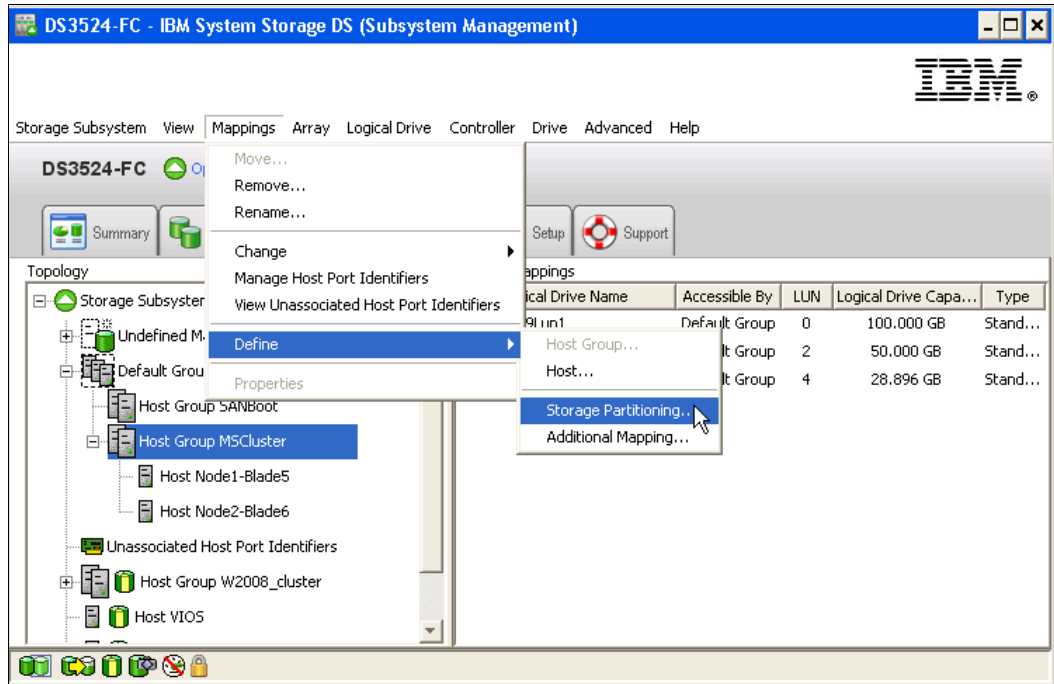

Figure 19-5 Create Host Group-to-Logical Drive Mapping
6. Create the host group-to-logical drive mapping. Select the host group created in previous step (in our example, MScCluster) and define storage partitioning by clicking the **Mapping** → **Define** → **Storage Partitioning** as shown in Figure 19-5 on page 561.